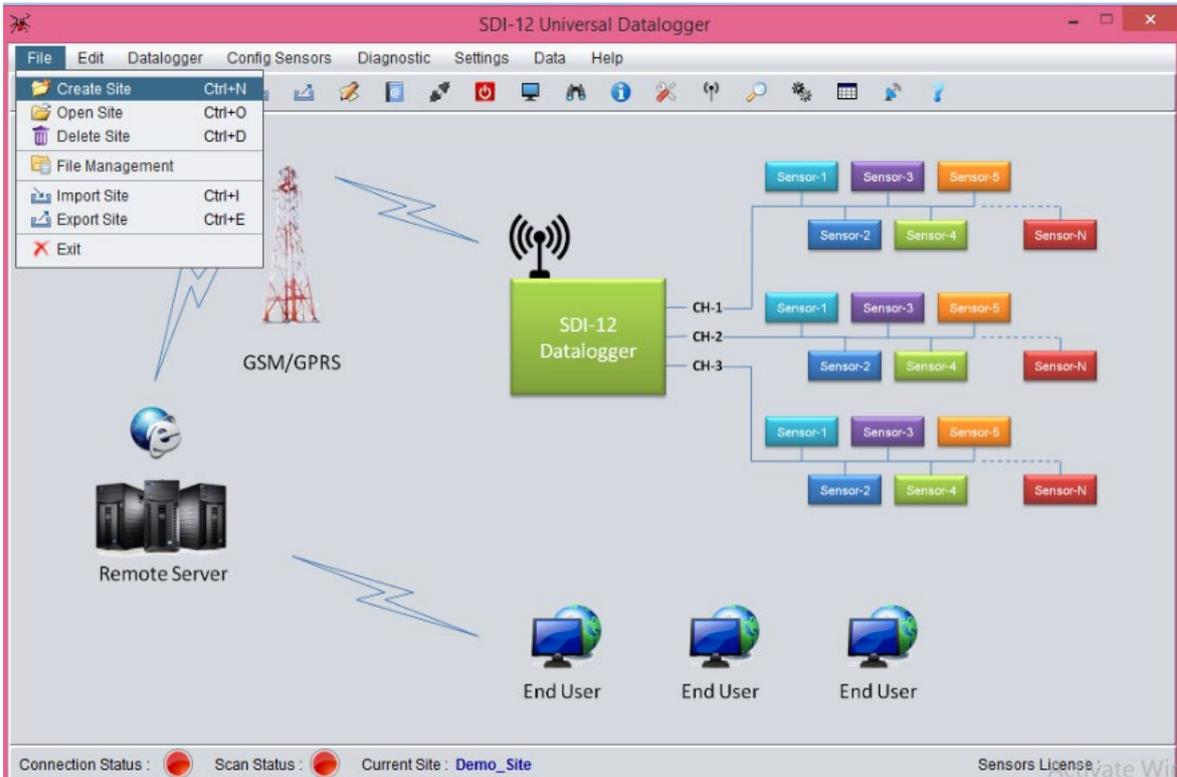

Figure 7-1 Home screen of EDSL-30UNI Configuration Manger Software
- 1 Double click the  SDI-12 Universal datalogger software icon on the Desktop. Then click "File" followed by "Create Site" as shown in figure 7-1 below: